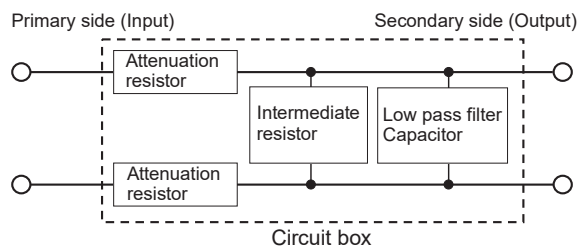
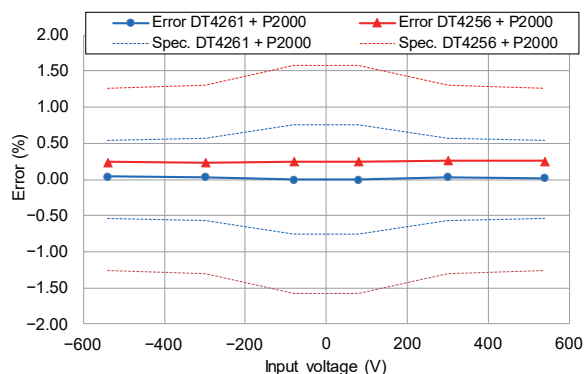

Fig. 7. P2000 circuit architecture.
Fig. 8. P2000 linearity characteristics (600 V range).
1) *Electric circuitry*: Fig. 7 provides a block diagram of the P2000's electric circuitry. The P2000 consists only of the passive resistor and capacitor components. The attenuation resistor is designed to satisfy the protective impedance requirements of the CAT III 2000 V/CAT IV 1000 V safety standard so that the secondary-side output poses no risk, even if touched directly by a person.
2) *Output ratio correction*: As illustrated in Fig. 7, the P2000 consists only of passive components. As a result, its output ratio varies depending on the input impedance of the instrument to which it is connected. The DT4261 and CM4370-50 series offer a DC High V Probe mode that corrects the output ratio using the instrument's own input impedance. Figs. 8 and 9 provide linearity characteristics graphs for the DT4261, which has DC High V Probe mode, and the DT4256, which does not, when used with the P2000. DC High V Probe mode not only increases measured value readability, but also allows more accurate measurement.